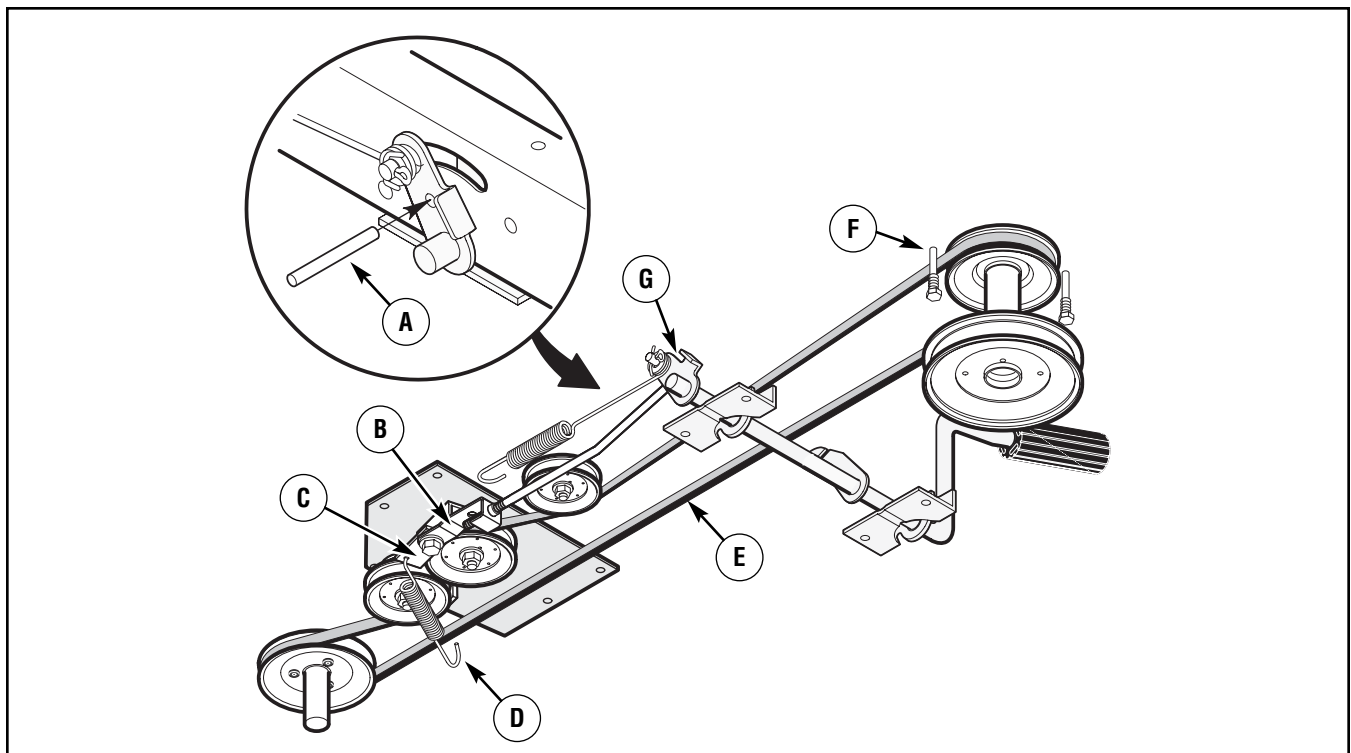

Figure 28: Adjusting motion drive belt
3. Align the hole in the **brake lever** with the hole in the frame. Hold the **brake lever** in place with a **1/4 inch (6 mm) pin or bolt** (Figure 28).
6. Remove the **1/4 inch (6 mm) pin or bolt** (Figure 28).